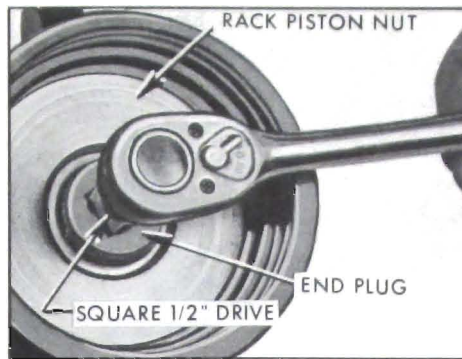

Figure 8-62—Removing Rack-Piston Nut End Plug
6. Remove rack-piston nut end plug with a 1/2" square drive. See Figure 8-62.